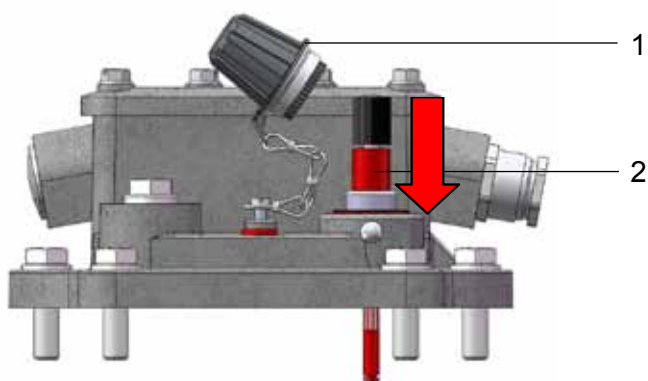

Figure 6 - Press the test key
- Remove the cap nut (Fig. 6/ No. 1)
- Press the test key (Fig. 6/ No. 2) down to stop position, then release the test key (the damper will return to operating position)